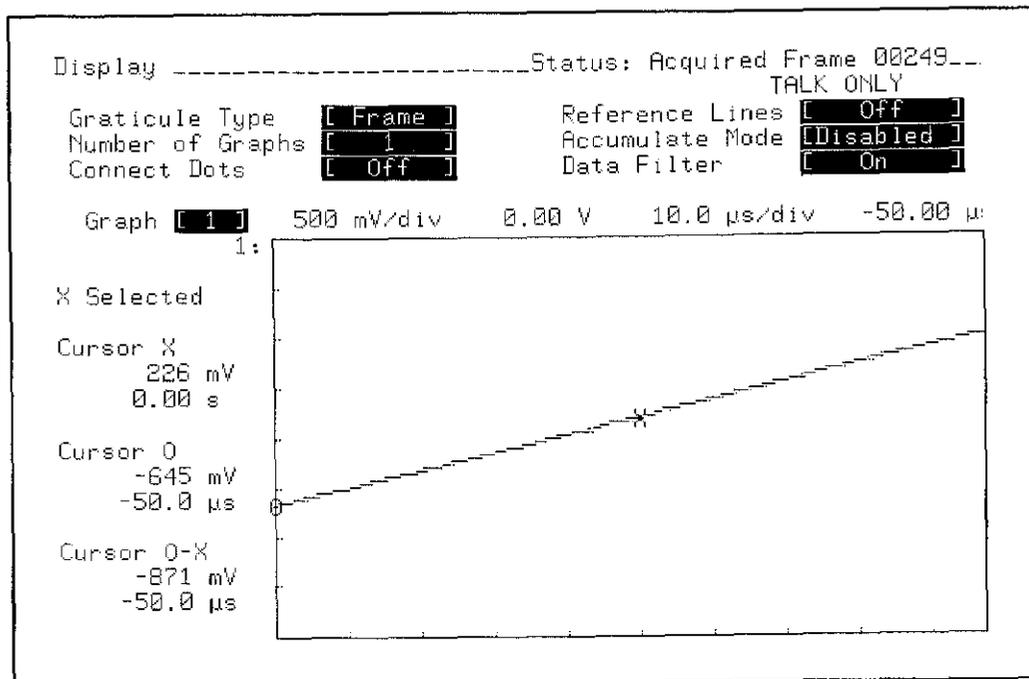

Figure 3-13. DISPLAY Waveform
3. Display Channel 1. The triggered waveform should appear similar to figure 3-13.